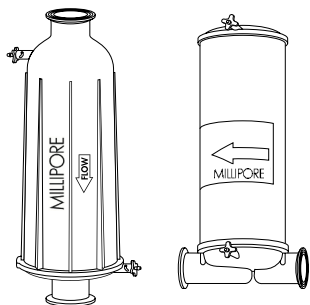

Figure 1. Flow indicator arrows
- Orient the capsule in the process so that process flow follows the flow indicator arrow on the capsule label. See Figure 1.